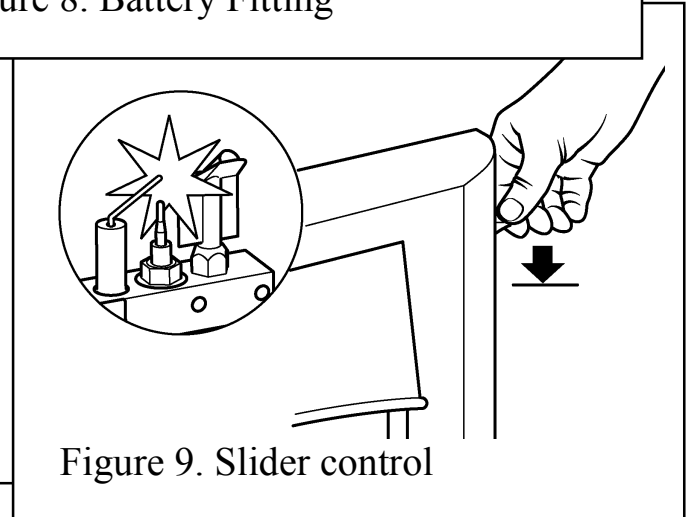

Figure 9. Slider control
- Depress the slider as far as it will go. This should close the ignition circuit. Sparks should be seen tracking from the electrode pin to the thermocouple tip. See figure 9.